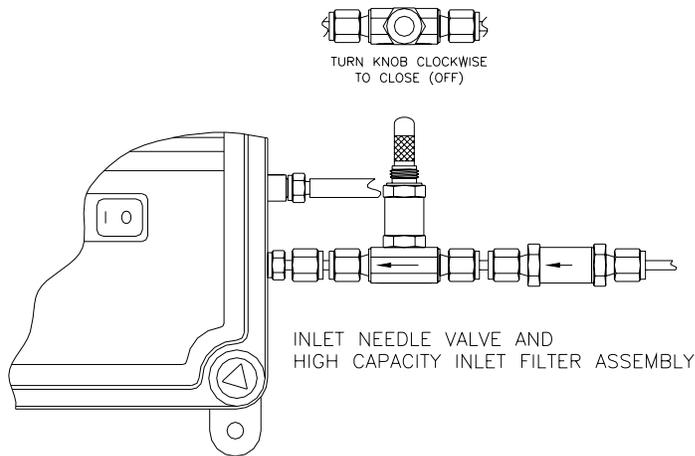

Figure 5. Inlet Needle Valve/Filter Assembly
- Once all tubing connections are complete and the sample inlet tubing has been flushed to drain, sample water can be introduced to the sensor. The inlet needle valve is used to vary flowrate and may need adjustment to establish flow. Refer to Figure 5. First, turn the adjustment knob fully clockwise to a closed position. Then, turn adjustment knob counter-clockwise three turns. Slowly open the sample point isolation valve until flow is
In this mode, the sensor LED lights on the front cover act as a bar-graph type indicator as described below. The flow rate is set by adjusting the inlet needle valve installed on the sample inlet connection of the 5000TOC Sensor (see Figure 5). Turning the adjustment knob counter-clockwise will increase the flow rate while turning it clockwise will decrease the flow rate. Initially, start adjustment with the inlet needle valve adjustment knob turned clockwise until there is no flow observed. Once this is completed, begin turning the adjustment knob counter-clockwise slowly to gradually increase flow.